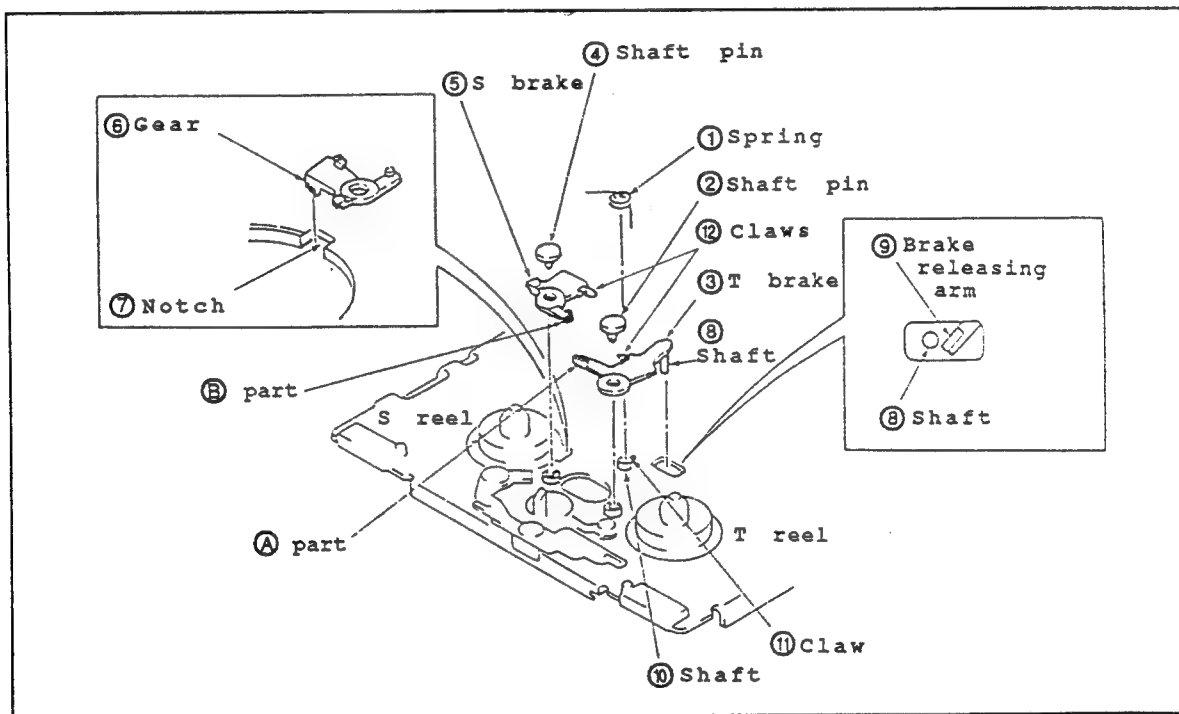
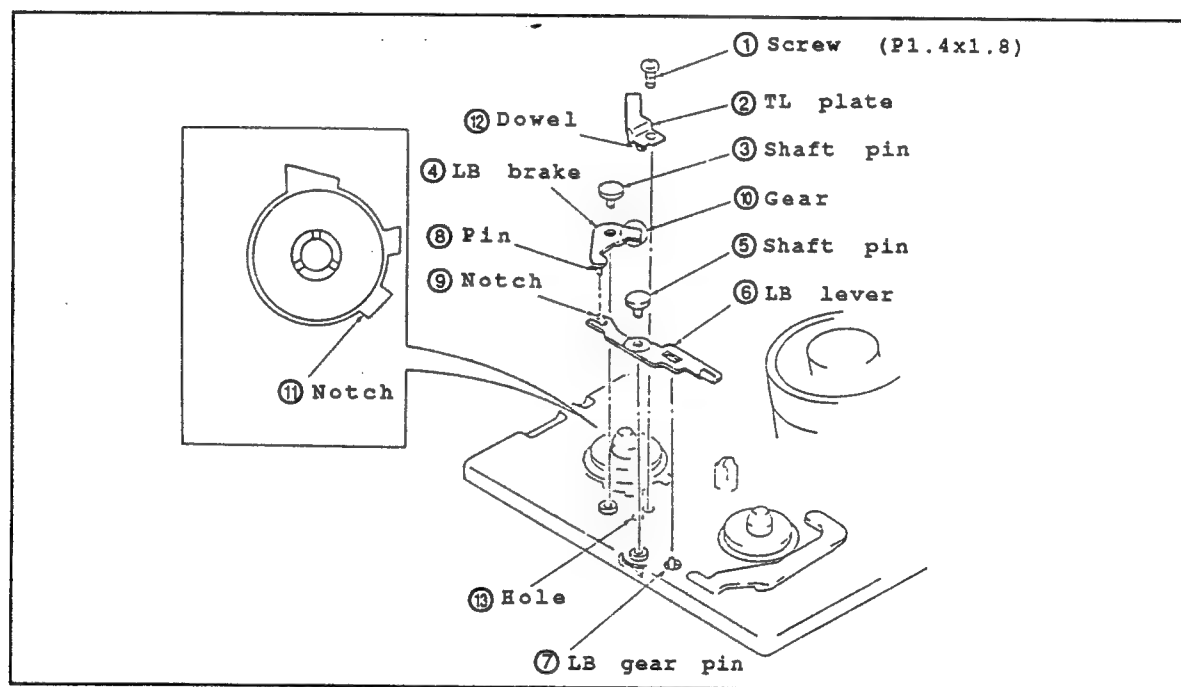

Fig.II-10
Fig.II-11
• Disassembling (Fig.II-10)
- (1) Remove the spring ①.
- (2) To take out the T brake ③, remove the shaft pin ②.
- (3) To take out the S brake ⑤, remove the shaft pin ④.
*Note: If the claw part of shaft pin ② and ④ damaged, replace them.
• Reassembling (Fig.II-10)
- (1) Install the S brake ⑤ while inserting the gear ⑥ into the notch ⑦.
- (2) Attach the shaft pin ④.
- (3) To install T brake ③, put the shaft ⑧ of T brake ③ into the S reel side comparing the brake releasing arm ⑨. At this time, part ① must be at the drum side comparing part ⑧.
- (4) Attach the shaft pin ②.
- (5) Insert the spring ① under the claw ⑪ of shaft ⑩.
- Hook the spring ① on the claws ⑫, respectively.
- Disassembling (Fig.II-10)
- (1) To take off the TL plate ②, remove the screw ①.
- (2) To take off the LB brake ④, remove the shaft pin ③.
- (3) To take off the LB lever ⑥, remove the shaft pin ⑤.
*Note: If the claw part of shaft pin ③ and ⑤ damaged, replace them.
- Reassembling (Fig.II-11)
- (1) Assemble the LB lever ⑥ while inserting the LB gear pin ⑦ to the hole of LB lever ⑥. Then, secure it with the shaft pin ⑤.
- (2) Assemble the LB brake ④ while inserting the pin ⑧ to the notch ⑨ of LB lever ⑥ and the gear ⑩ to the notch ⑪.
- (3) Install the shaft pin ③.
- (4) Assemble TL plate ② while aligning the dowel ⑫ and the hole ⑬. Then, secure it with the screw ①.